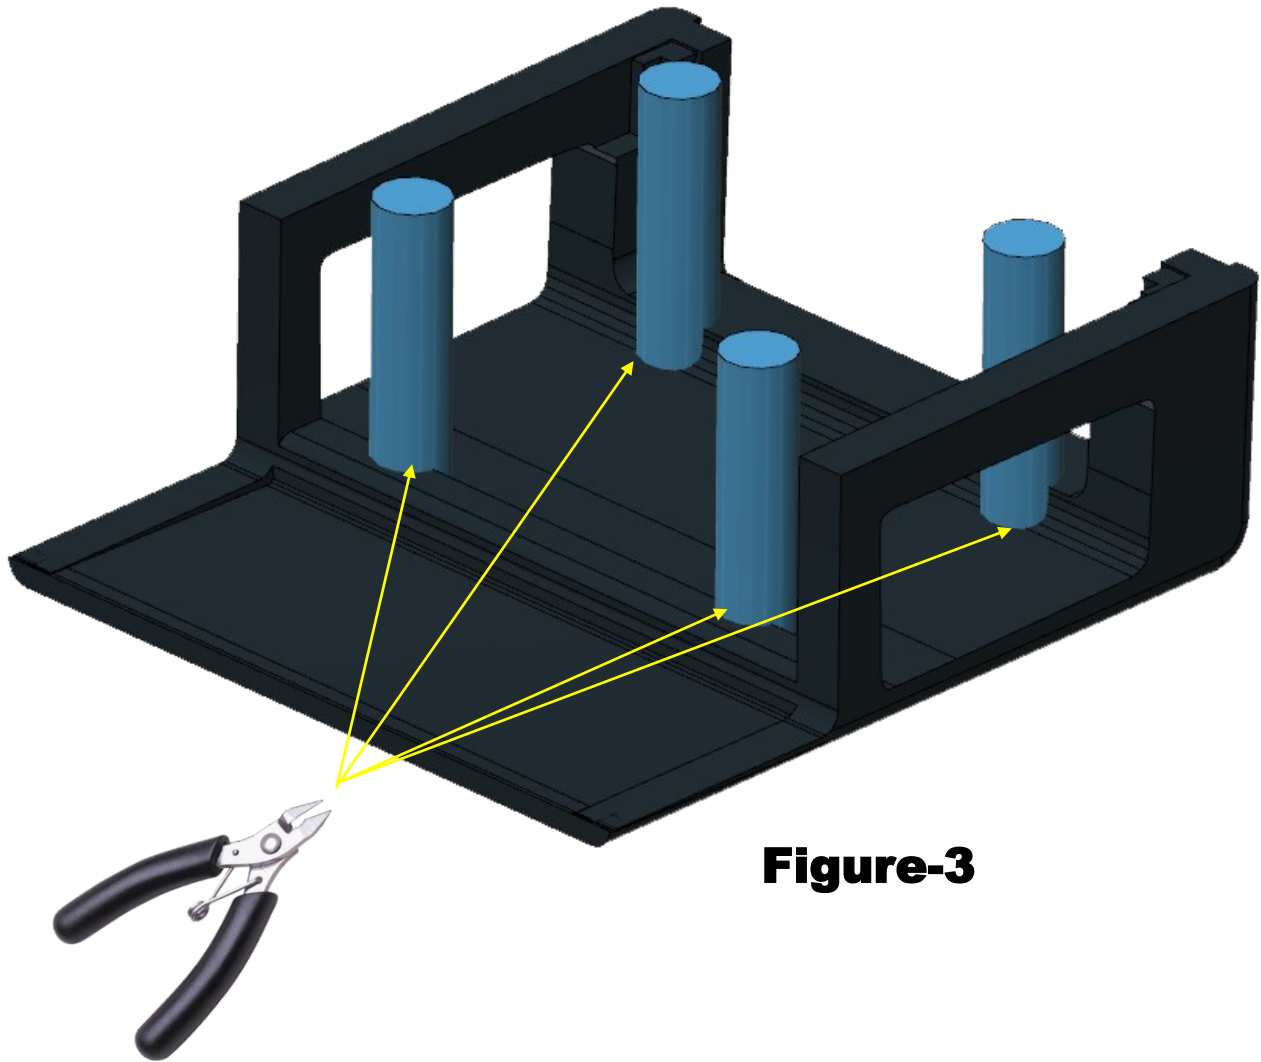

Figure-3
- Refer to Figure-3, above, and cut all four sprue stumps closely as possible to the inside of the top and discard.